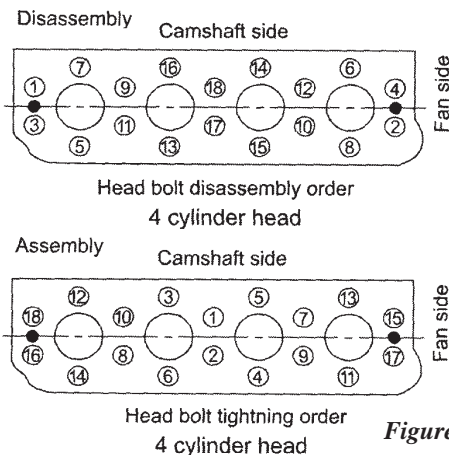

Figure 7: 4 Cylinder Head Torque Sequence
4. Tighten head bolts with a torque wrench in the order shown in figure 7. Tighten bolts evenly in 2 or 3 passes, ending at the specified torque in final pass.